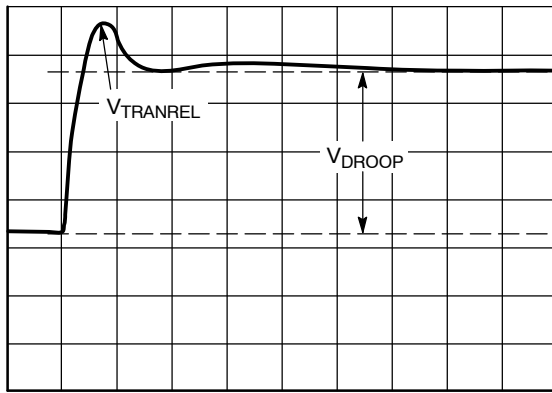

Figure 39. Transient Setting Waveform, Load Release
3. For load release (see Figure 39), if  $V_{TRANREL}$  is larger than the value specified by IMVP-6.5, a greater percentage of output capacitance is needed. Either increase the capacitance directly or decrease the inductor values. (If inductors are changed, however, it will be necessary to redesign the circuit using the information from the spreadsheet and to repeat all tuning guide procedures).